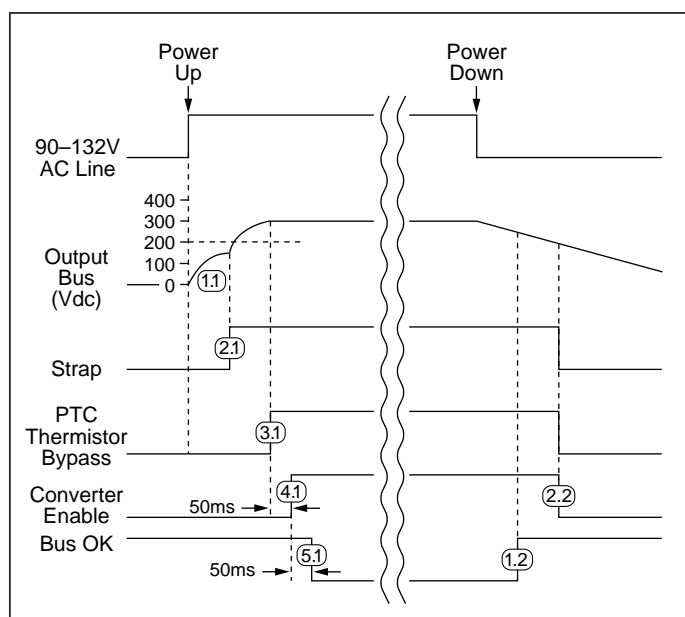

Figure 7—Timing diagram: power up/down sequence
#### Power-Up Sequence. (See Fig. 7):
**Power-Down Sequence.** (See Fig. 7). When input power is turned off or fails, the following sequence occurs as the bus voltage decays: